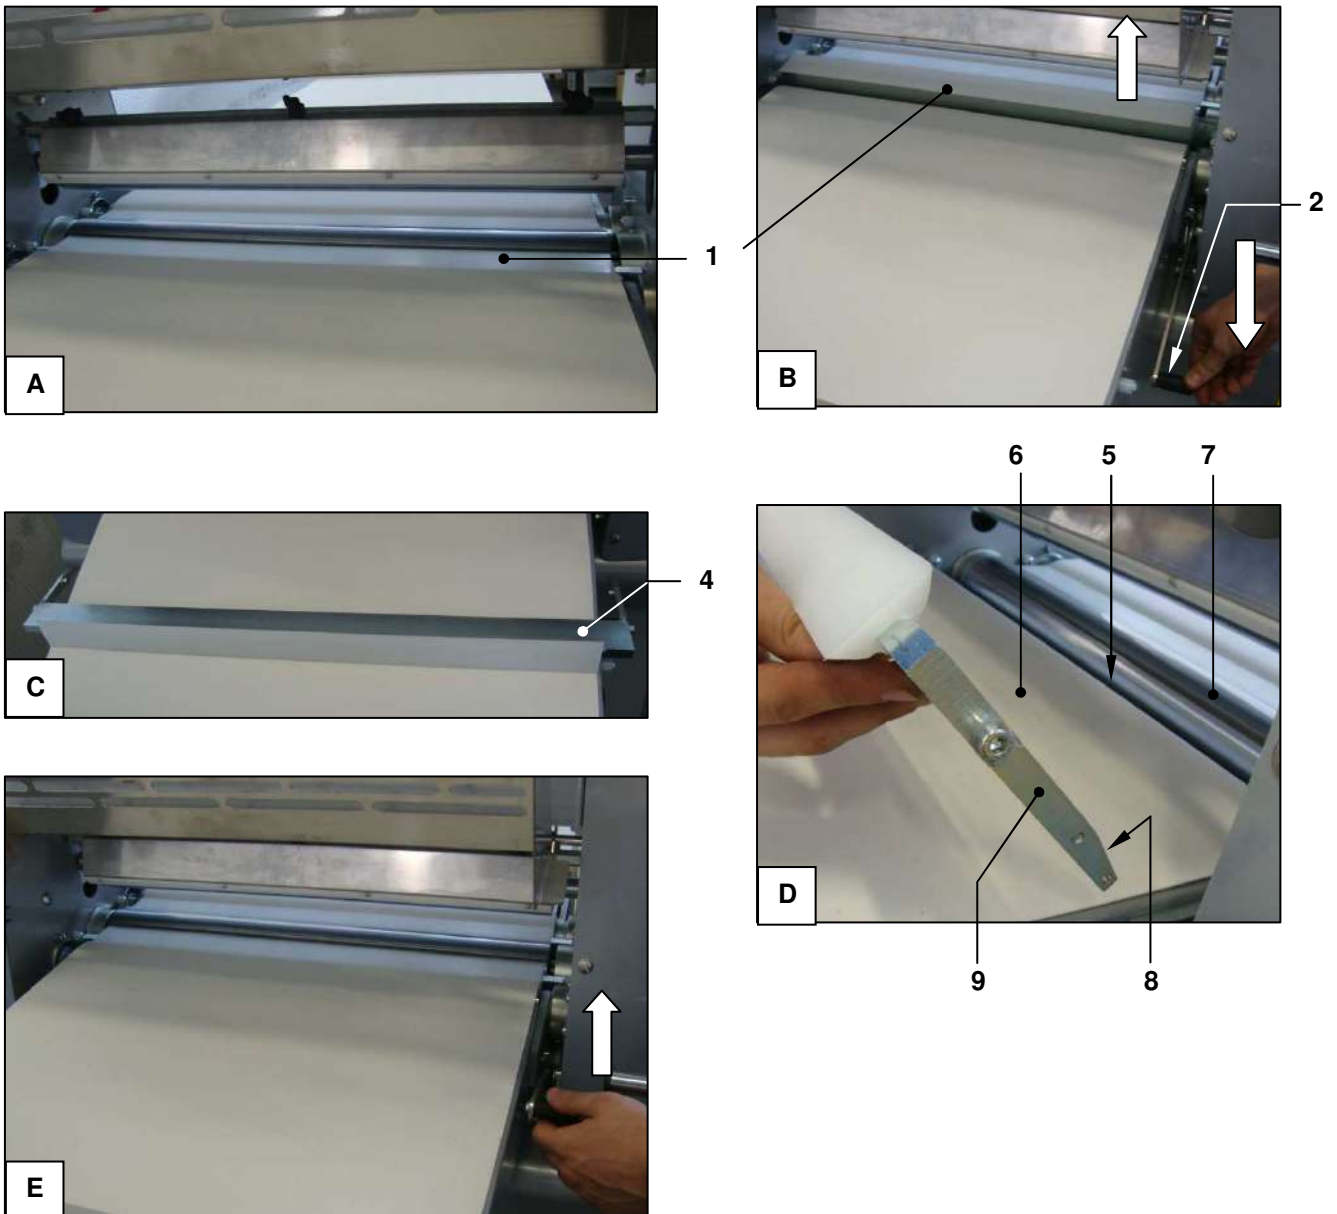

Figure 36 - Mod. SF600: removing/installing the lower roller scrapers
With reference to Figure 36, **to remove a scraper** ref. 1 lower the lever completely ref. 2. The scraper will move away from the conveyor belt and the thickening roller (photo B) and can then be removed by pulling it upwards.